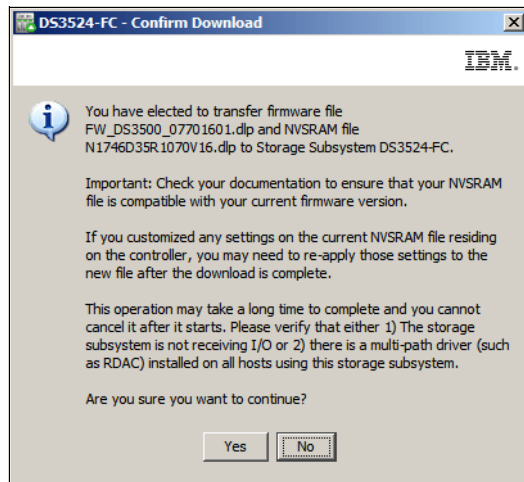

Figure 14-71 Confirm Download
6. Click **Transfer** to submit the new microcode to the storage subsystem. The Confirm Download window appears (Figure 14-71). Read it and click **Yes** to continue.